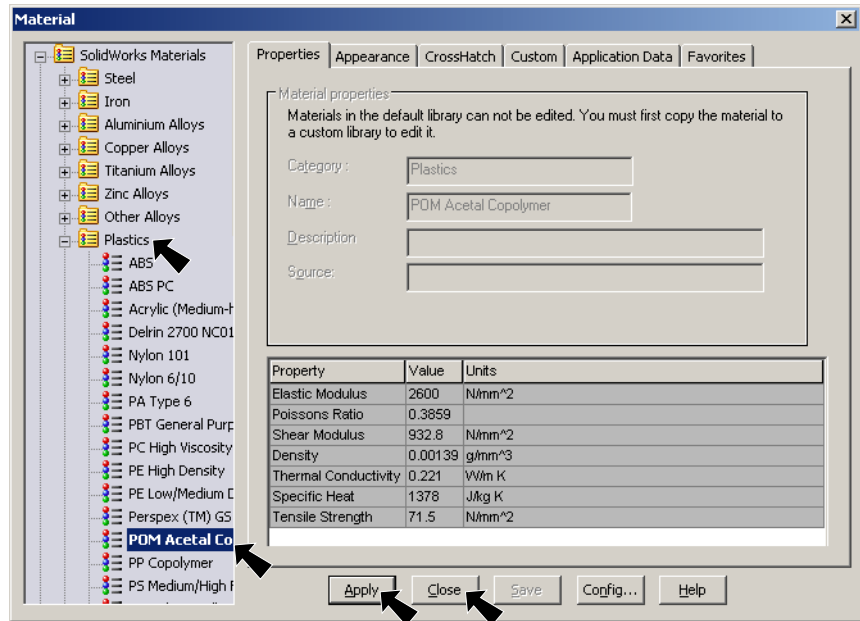

Fig. 19
Step 2. **Expand Plastics** in the material tree and select **POM Acetal Copolymer**, **Fig. 19**. Click **Apply** and **Close**.